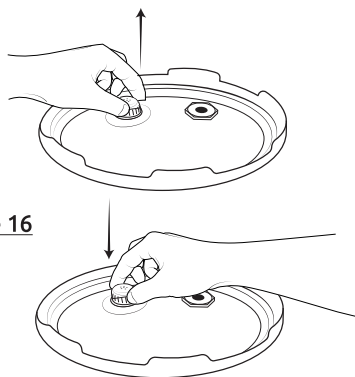

Figure 16
2. Use a non-abrasive sponge or damp washcloth to clean the outer body (13). NEVER immerse the outer body (13) in any liquids or pour liquid into it.
3. Remove the Condensation Cup (12) and rinse it thoroughly and let dry. Clean the Inner Main Body (13) and Upper Ring (9) with a damp sponge or washcloth.
4. Remove the pressure limiting valve (3) by gripping and firmly pulling upwards. Rinse with warm water and dry.
5. Clean the Lid (2) with warm soapy water, including the Rubber Seal Ring (18), Filter (17), Vent, Float Valve (4) and let dry thoroughly.
6. On the underside of the lid below the pressure limiting valve (3), is a small metal filter (17) which can be easily removed to clean (Figure 16).
8. Wash the Inner Pot (6), Wire Rack (20), and Tempered Glass Lid (21) with a non-abrasive sponge and allow to air dry or use a towel. It is not recommended to use any type of scouring pad that can scratch the non-stick surface of the Inner Pot (6).